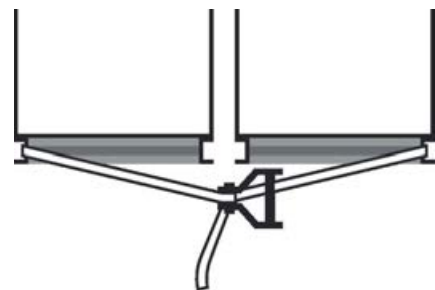

Fig. 15: Attaching a ratchet strap
- 1 ▶ Attach a ratchet strap to the base frames of two AHU casing units (Fig. 15).